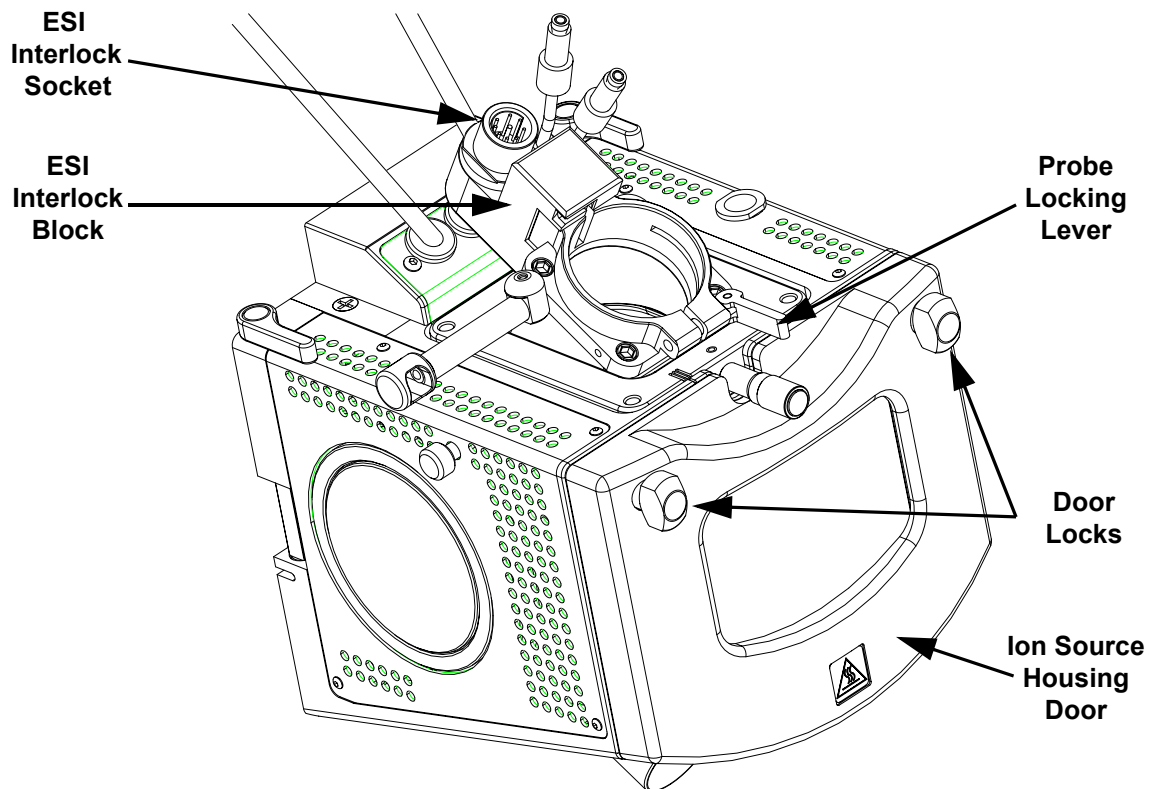

Figure 2-3. Ion Max ion source, detail of components
2. Connect the vaporizer heater cable to the ESI interlock socket on the ion source housing. See Figure 2-3.
- a. Carefully pull the probe straight back in the port in the housing until it meets with the slot in the ESI interlock block. (Figure 2-3) The guide pin on the probe manifold will prevent you from twisting the probe until the pin is aligned with the slot in the ESI interlock block. After the probe is all the way back and aligned with the slot, turn the probe 45 degrees counter-clockwise to free the probe from the alignment notch. Be careful not to break the fused-silica sample tube or PEEK safety sleeve.